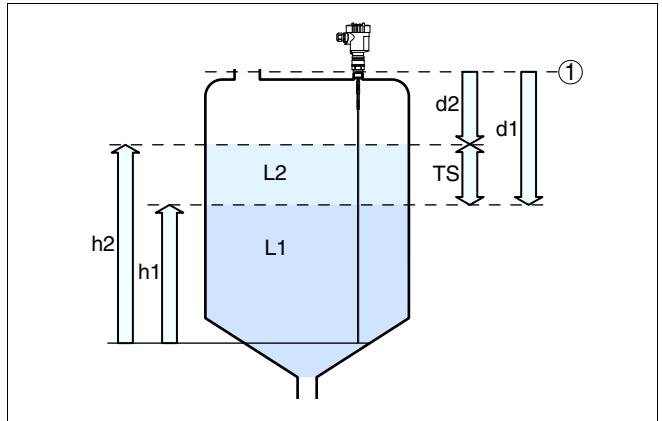

Fig. 2: Interface measurement
- The dielectric figure must be 10 higher than the dielectric figure of the upper medium, preferably electrically conductive. Example: upper medium dielectric figure 2, lower medium at least dielectric figure 12